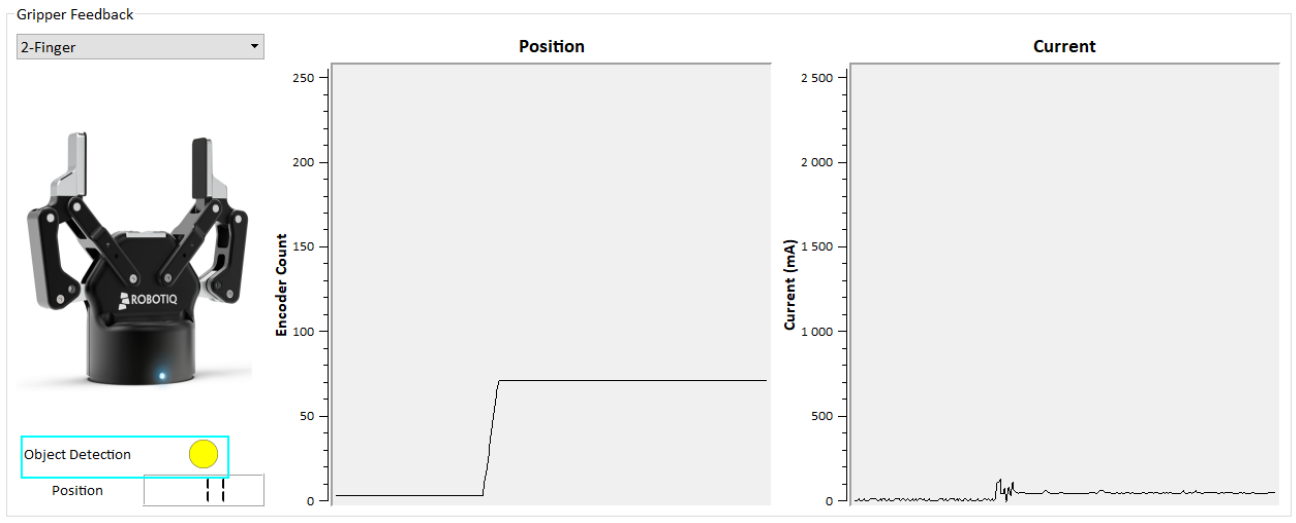

Fig. 5-12: Positive object detection is registered when the object detection dot turns yellow.
- **Object Detection:** If the Gripper detects contact with an object when closing, the "Object Detection" display turns yellow (Fig. 5-12:).